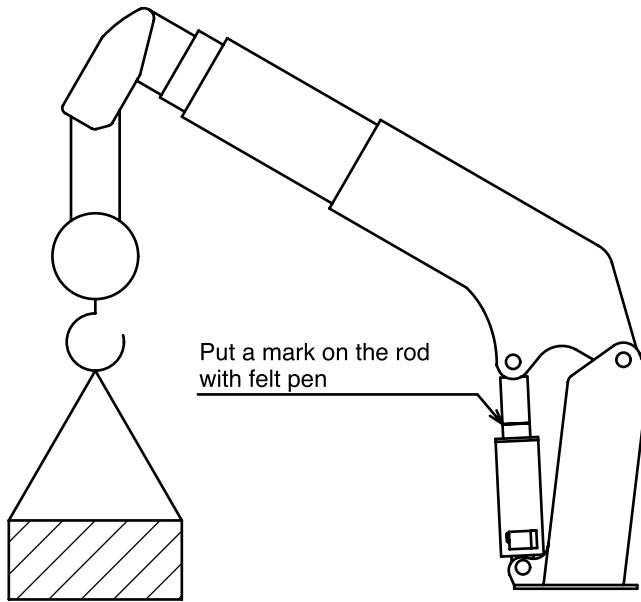

Fig1
- ① Allow booms to be horizontal and extend them fully to put a mark on each boom section (refer to Fig. 1).
- ② Raise booms to their maximum to sling a load.
- ③ In order to release pressure remained in the telescoping system, stop the engine and shift the manual lever for telescoping booms.
- ⑩ Allow booms to be horizontal and extend them fully to put a mark on each boom section (refer to Fig. 1).
- ⑪ Raise booms to their maximum to sling a load.
- ⑫ In order to release pressure remained in the telescoping system, stop the engine and shift the manual lever for telescoping booms.
- ⑬ Remove the retraction hose.
- ① Raise booms to an angle of approx. 30°.
- ② Put a mark on the rod with a felt pen (refer to Fig. 1).
- ③ In order to release pressure remained in the derrick system, stop the engine and shift the manual lever for raising/lowering of booms.
- ① Extend outrigger cylinders to their extremes.
- ③ In order to release pressure remained in the outrigger system, stop the engine and shift the manual levers for extension/retraction of outriggers.
- ⑤ Next, remove the extension pipe, and if oil overflows continuously out of the pilot check valve port of raising side, there may be faulty on the seat surface of pilot check valve (refer to Fig. 1).
In order to release pilot pressure in the retraction side, be sure to remove the extension pipe after the retraction pipe has been removed (refer to Fig. 1).